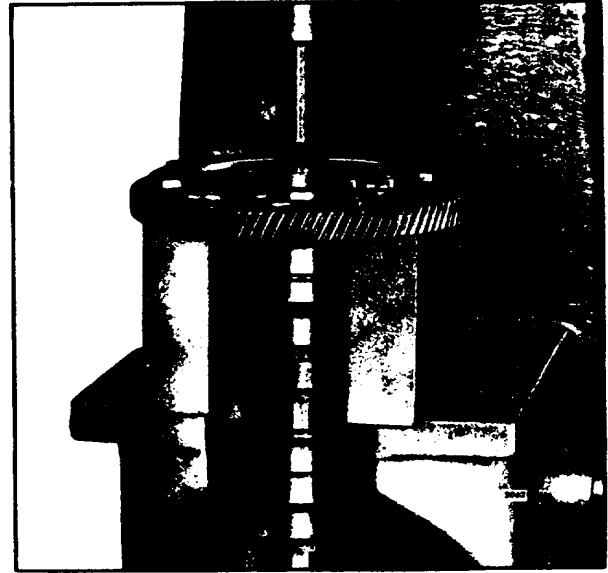

Fig. 1. - Removing Camshaft Gear
2. Place the camshaft and gear assembly in an arbor press with the gear suitably supported as shown in Fig. 1.